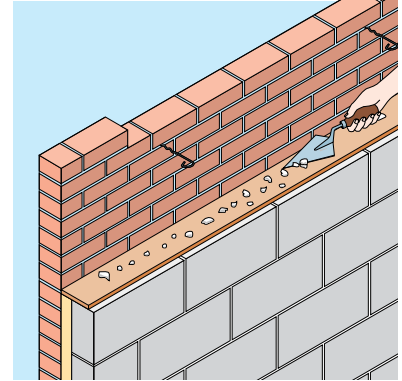
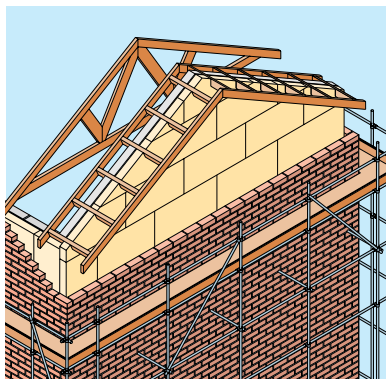

Figure 6
Figure 9 Installation of Batts in gable end wall
- 4 Before installation of each course of batts, excess mortar must be removed from the inside face of the leading leaf and mortar droppings cleaned from the exposed edges of the batts. This is made easier by the use of a cavity board (Figure 6). This sequence should be maintained progressively up to wallplate (or cavity tray) level. It is important that the insulation is carried to the highest level possible in either case (Figure 9).
- 9 Repeat this sequence to the top of the wall (see Fig 9). If not, protect the top of the batts with a cavity tray.